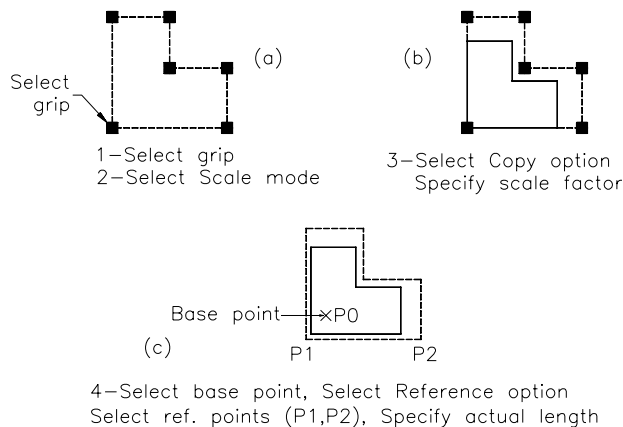

Figure 6-13 Using the **Scale** mode to scale and make the copies of the selected objects
1. Use the **PLINE** command to draw the shape shown in Figure 6-13(a). When you select the objects, they will be highlighted and the grips will be displayed at the definition points.
- At this prompt, enter the scale factor or move the cursor and select a point to specify a new size. AutoCAD will scale the selected objects by the specified scale factor [Figure 6-13(b)]. If the scale factor is less than 1 (<1), the objects will be scaled down by the specified factor. If the scale factor is greater than 1 (>1), the objects will be scaled up.
- Make a copy of the original drawing, as shown in Figure 6-13(c). Select the objects, and then select the grip located at their lower left corner. Invoke the **Scale** mode. At the following prompt, enter C (Copy), and then enter B for the base point.
After specifying the reference length at the **Specify new length or [Base point/Copy/Reference/eXit]** prompt, enter the actual length of the line. AutoCAD will scale the objects so that the length of the bottom edge is equal to the specified value [Figure 6-13(c)].